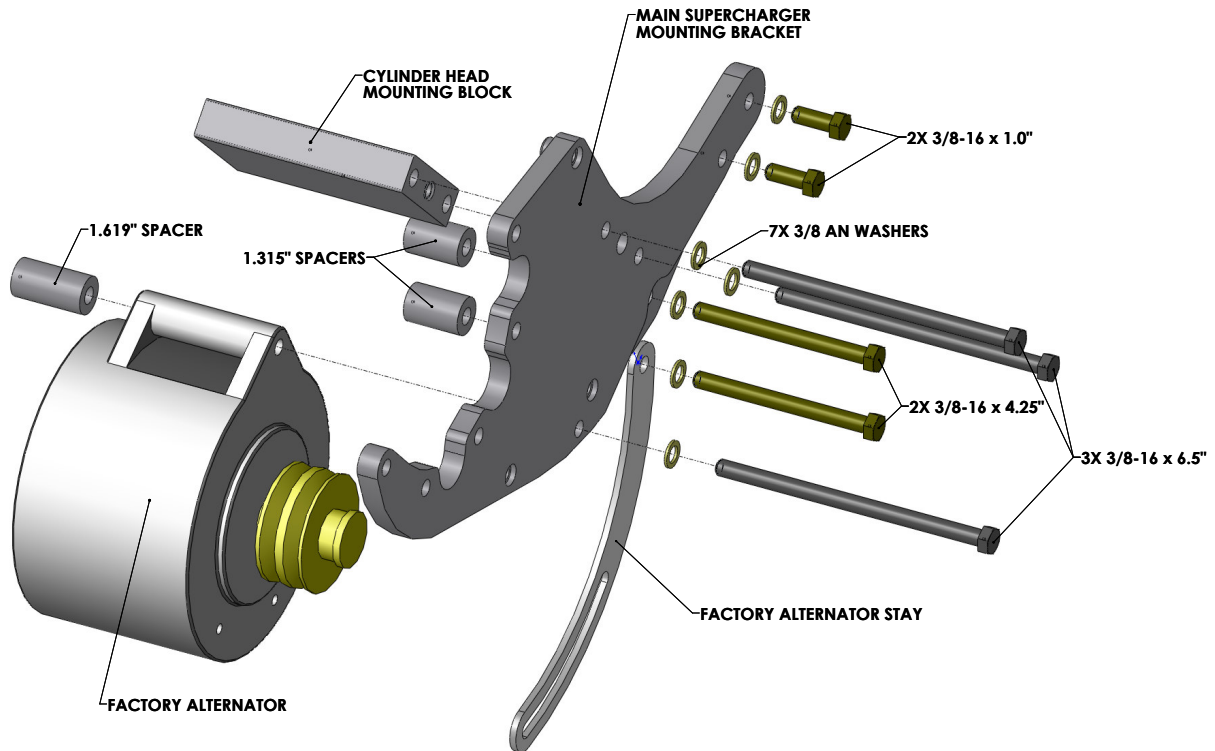

Fig. 5.1-d
- G. Locate two 3/8-16 x 1.0” bolts and 3/8 AN washers and install through the two holes located in the tail end of the main supercharger mounting bracket and into the threaded water pump bosses. (See Fig 5.1-d)